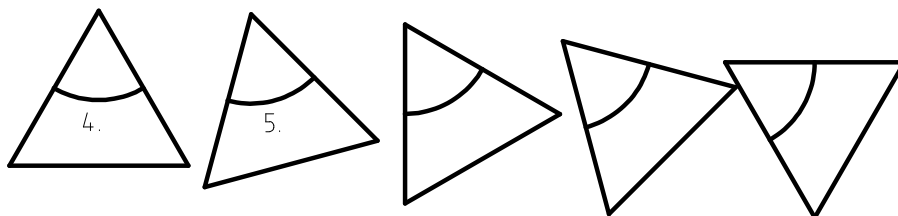

Figure 56: Move and Rotate reference point (4.) and target point (5.).
5. Set the target point. To move the selected entities by a given amount, e.g. by 50 to the right, enter `@50,0` in the command line. In Figure 56, the two reference points are labeled. The rotation angle in the example is 15 degrees and the number of copies four. This results in a total rotation angle of 60 degrees.